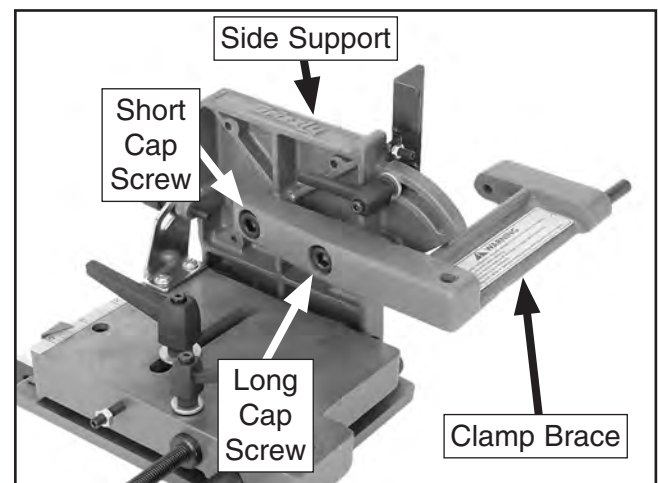

Figure 6. Clamp brace installed.
1. Attach the clamp brace to the back of the side support with the M10-1.5 cap screws and lock washers, as shown in **Figure 6**.
Note: These cap screws are different lengths and must go into the correct holes (see **Figure 6**).